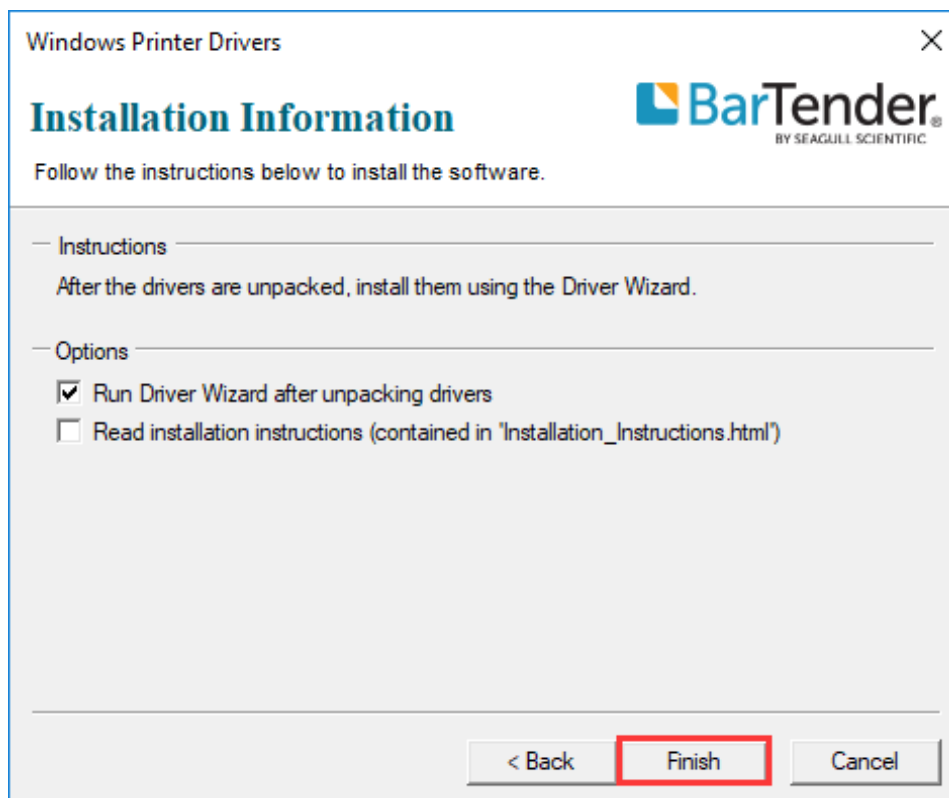

Figure 2-17 Installation Information Screen
5. On the “Installation Information” screen, check the box that says “Run Driver Wizard after unpacking drivers”, then click “Finish”, as shown in Figure 2-17.